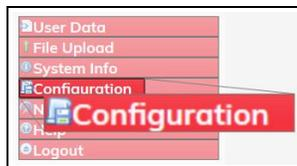

Figure 140: Configuration link
4. On the **Menu** list, click the **Configuration** link. Figure 140